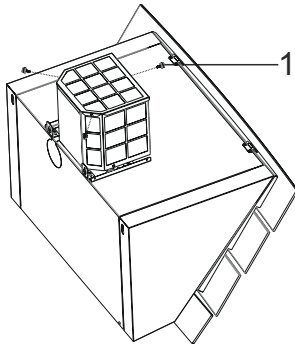

Fig. 6
- Remove the 3 screws with plastic heads to disassemble the top plate of the carbon filter housing (Fig. 6).